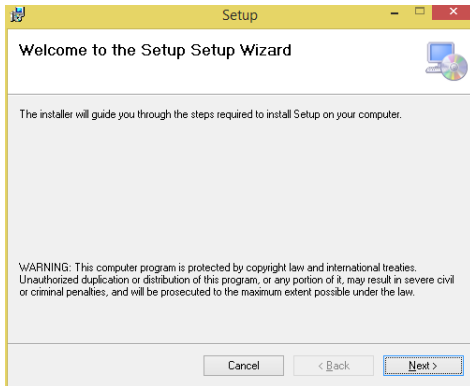

Figure 1 Setup Wizard to start installation.
- Follow the prompts to install the software (see figure 1 to figure 4).